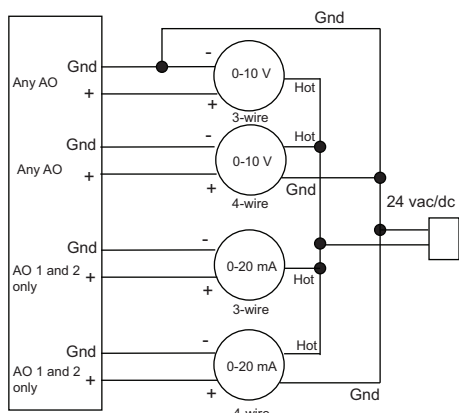

Fig. 4 — Connect Analog Output Wiring to Screw Terminals
4. Connect the analog output wiring to the screw terminals on the TruVu™ and to the controlled device as shown in Fig. 4.